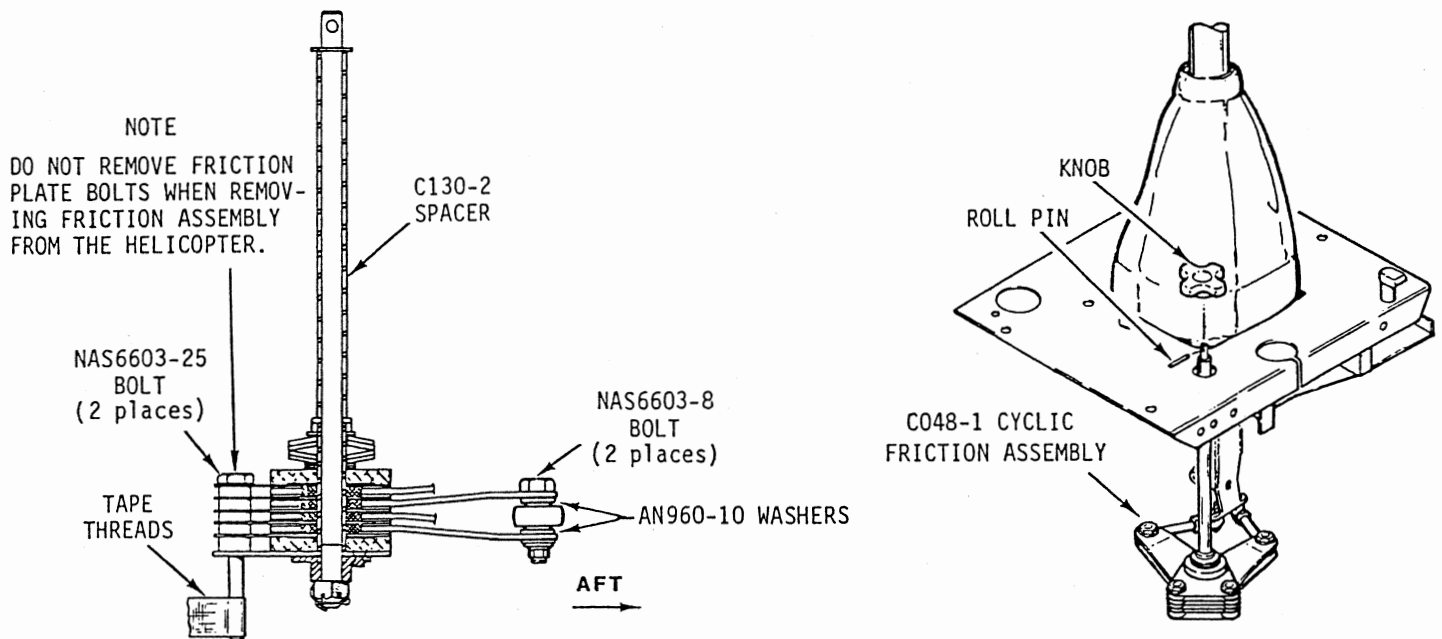

FIGURE 1 CYCLIC FRICTION ASSEMBLY
- 2) Perform steps in Section 8.111 a, b, and c of R44 Maintenance Manual (MM).
- 3) Remove two NAS6603-8 bolts attaching rod ends to friction arms (per Figure 1).
- 5) Disconnect, but do not remove, two NAS6603-25 bolts (per Figure 1).
- 6) Tape threads of NAS6603-25 bolts to avoid losing spacers and remove friction assembly (per Figure 1).